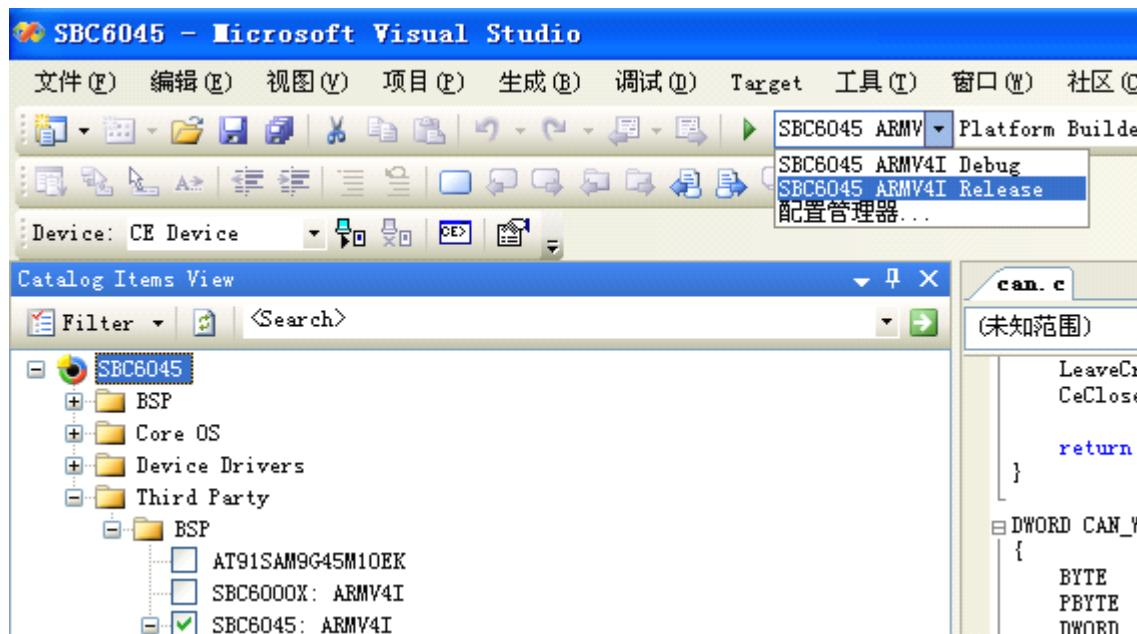

Figure 13.4.12
13. Set compilation type as SBC6045 ARMV4I Release, see Figure 13.4.12: